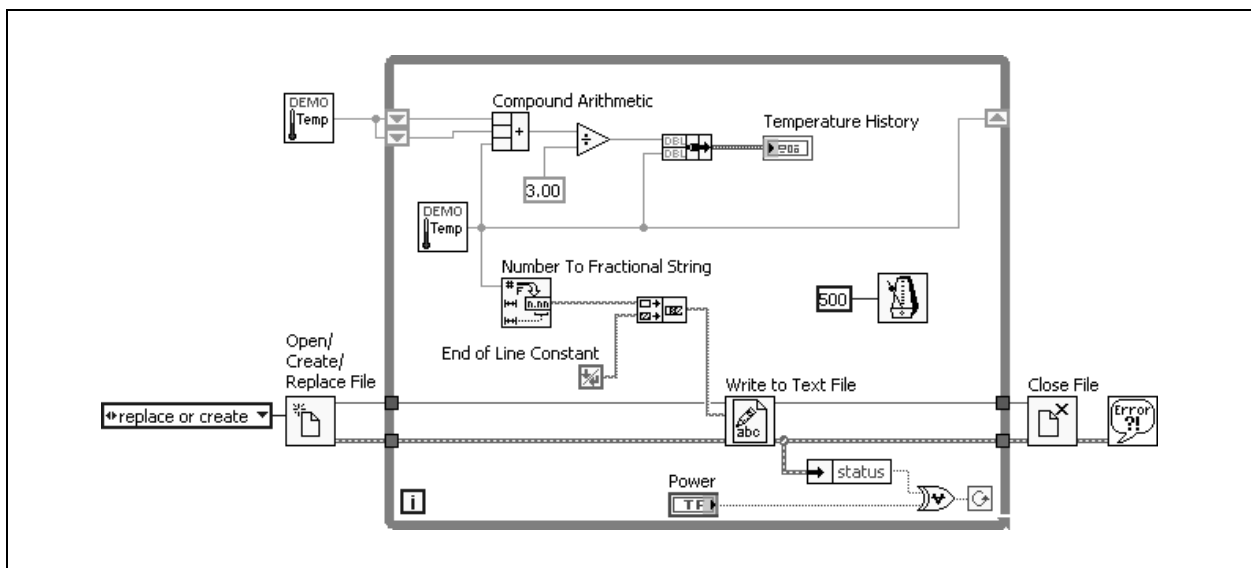

Figure 6-4. Temperature Log VI Block Diagram
In the steps below, you modify the block diagram similar to that shown in Figure 6-4.
- Wire the inputs of the Write to Text File function as shown in Figure 6-4.
- Wire the conditional terminal as shown in Figure 6-4.
- Finishing wiring the block diagram as shown in Figure 6-4.